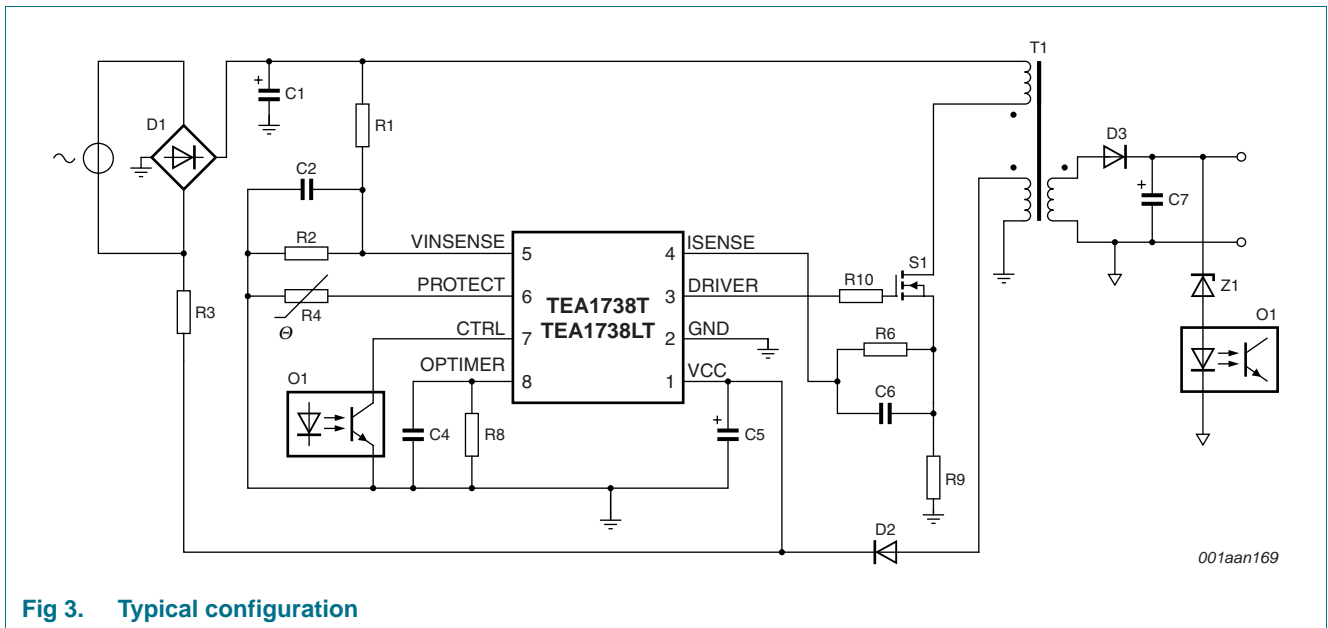
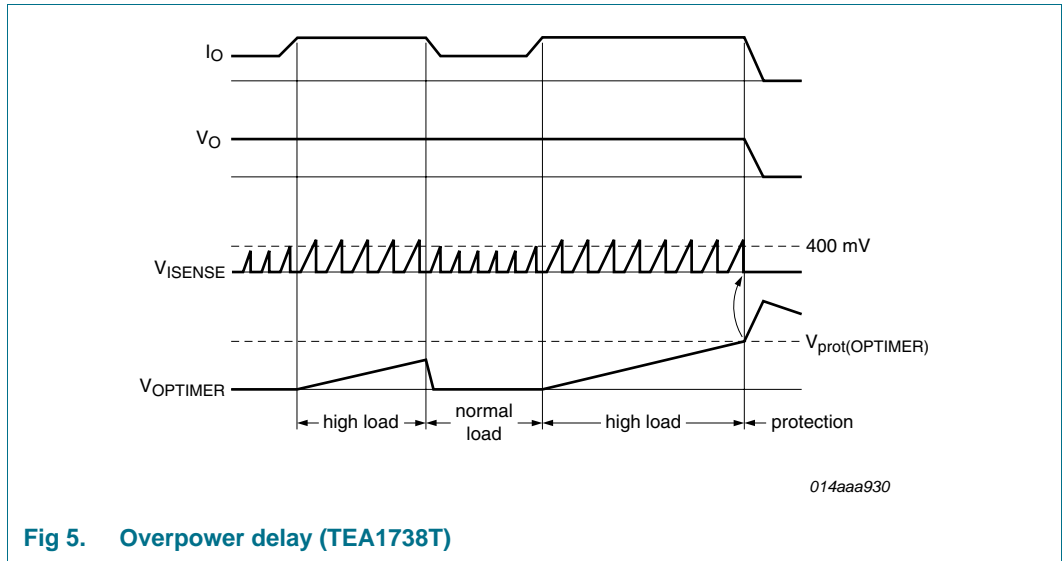
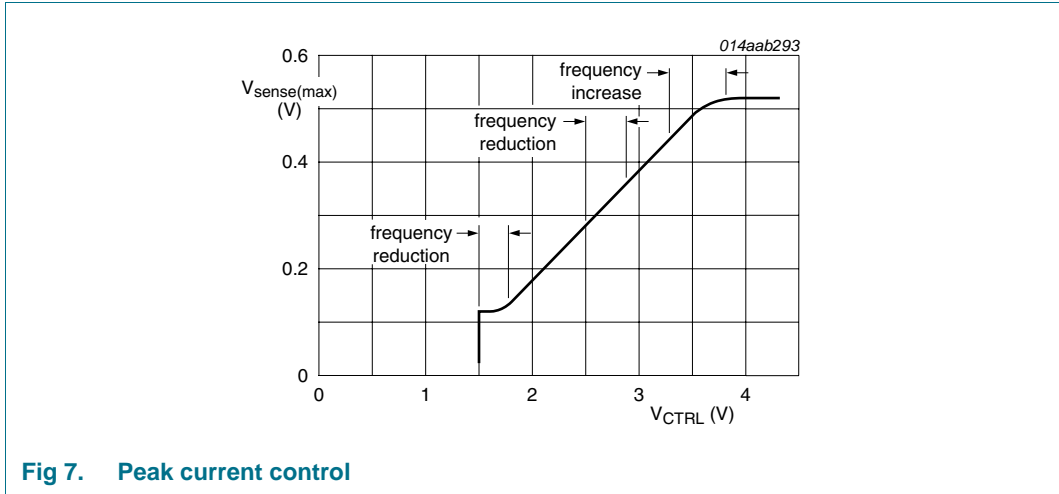
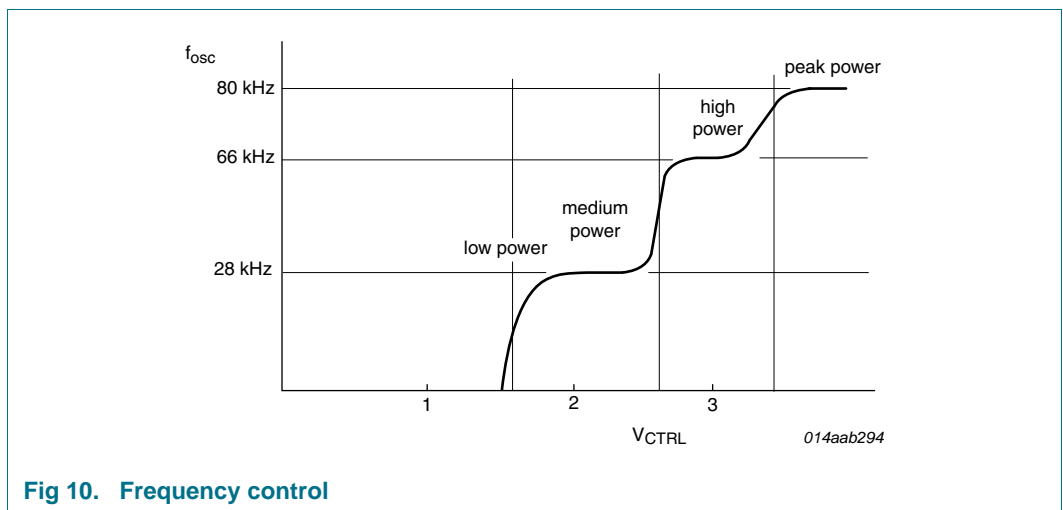

Fig 3. Typical configuration
Fig 5. Overpower delay (TEA1738T)
Fig 7. Peak current control
Fig 10. Frequency control
The TEA1738(L) contains a flyback circuit controller, a typical configuration of which is shown in Figure 3.
If the OPTIMER pin is connected to capacitor C4 (see Figure 3), a temporary overload situation is allowed. $V_{\text{ctrl}(I_{\text{peak}})}$ (see Figure 1) is set by pin CTRL. When $V_{\text{ctrl}(I_{\text{peak}})}$ is above 400 mV, the $I_{\text{IO}(\text{OPTIMER})}$ current (11 μA typical) is sourced from the OPTIMER pin. If the voltage on the OPTIMER pin reaches the $V_{\text{prot}(\text{OPTIMER})}$ voltage (2.5 V typical) the OverPower Protection (OPP) is triggered (see Figure 5).
The primary current is sensed by the ISENSE pin across external resistor R9 (see Figure 3) and compared with an internal control voltage. The internal control voltage is proportional to the CTRL pin voltage (see Figure 7).
A soft start is performed to prevent audible noise during start-up or a restart condition. Before the converter (re)starts, soft start capacitor C6 (see Figure 3) on the ISENSE pin is charged. When the converter (re)starts switching, the primary peak current slowly increases as the soft start capacitor discharges through the soft start resistor (R6, see Figure 3).
The switching frequency is increased for peak power operation. In medium power operation the switching losses are reduced by lowering the switching frequency. A second frequency reduction step is made when the output power is reduced to low power. In low power operation the converter switching frequency is reduced while the peak current is set to 25 % of the maximum peak current (see Figure 7 and Figure 10).